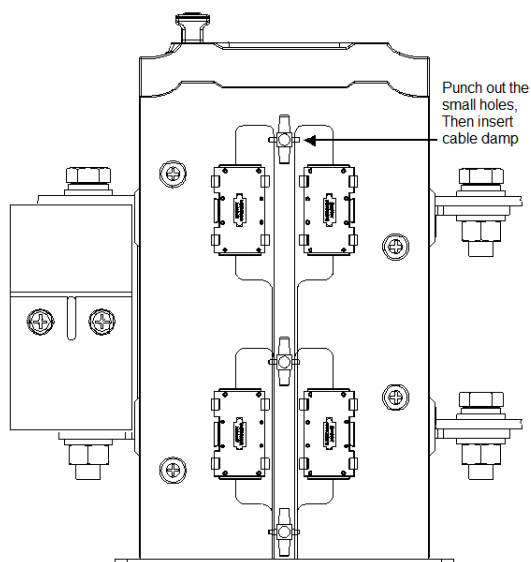

Figure 2-10 Schematic Diagram for Cable Routing
4. After wiring the auxiliary contacts, affix the corresponding cable with the closest cable clamp using a cable tie to facilitate and optimize the wiring layout as shown in Figure 2-10.